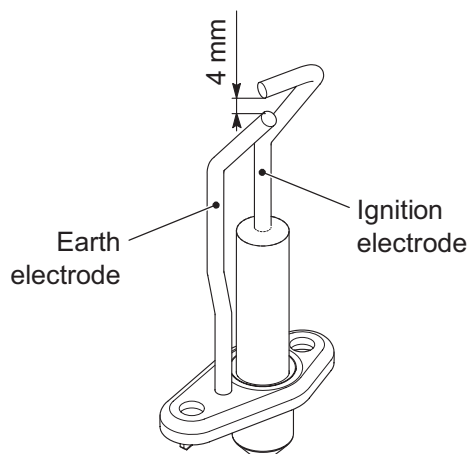
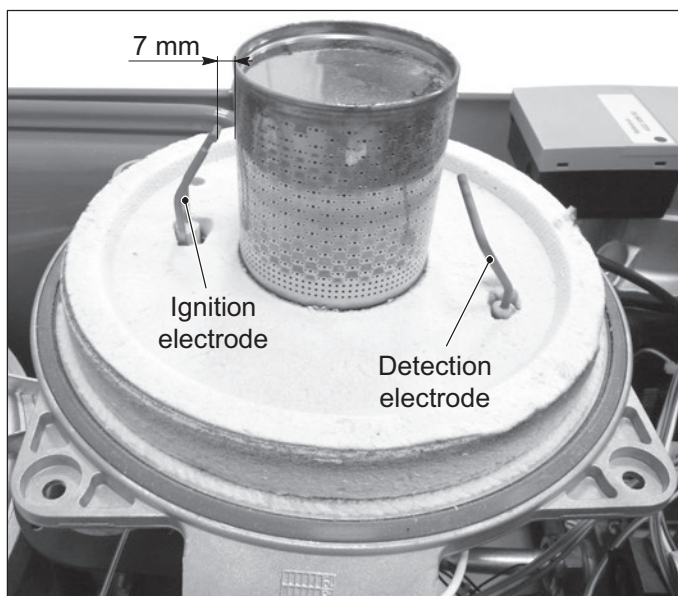

Figure 18.7
Figure 18.8
- 2 Check for the correct distance between the metallic edges of the ignition electrode (see Figure 18.7 - Figure 18.8).
The detection electrode in Figure 18.8 also functions as a sensor for the correct drainage of the condensate.